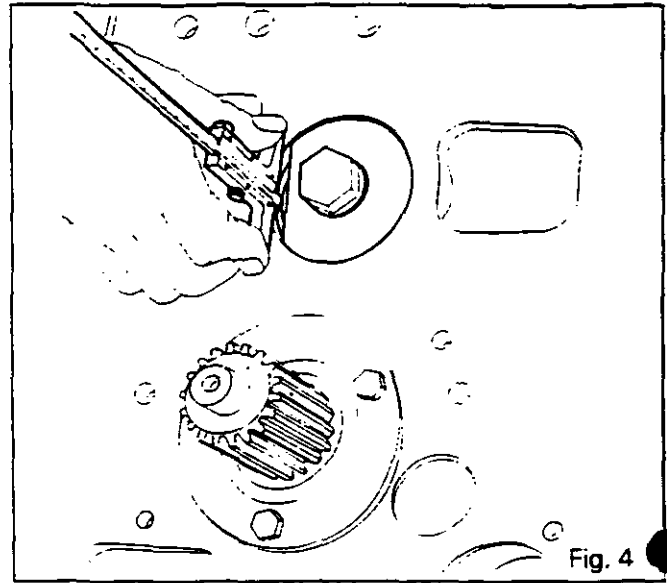

Fig. 4
25. Shim the layshaft (see Fig. 4) to obtain a play of: